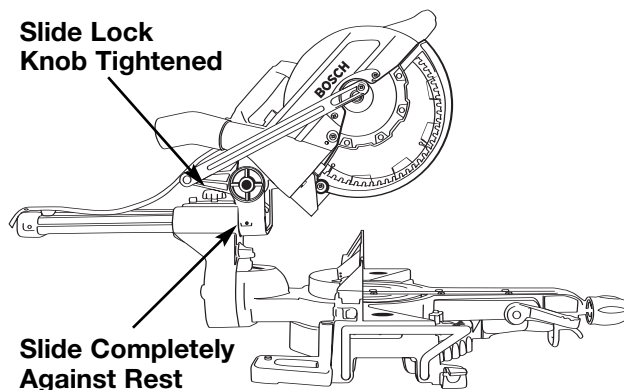

Figure 26. Chop Cut
1. Slide the head assembly to the rear as far as it will go (Figure 26).
2. Tighten the slide rail lock knob (Figure 26).